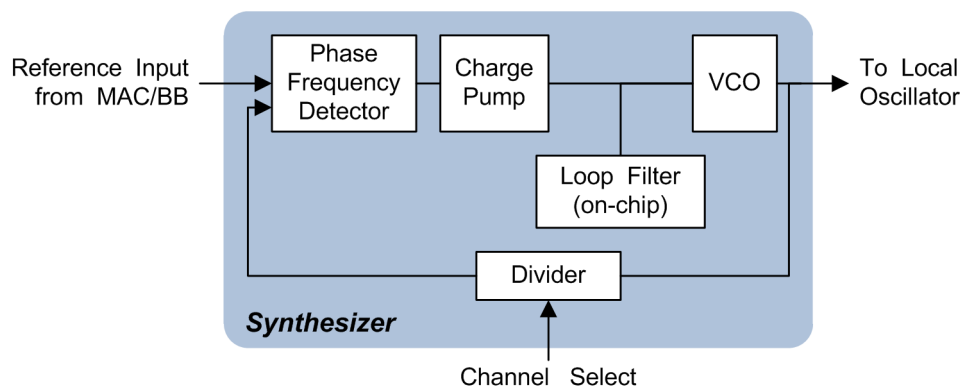

Figure 9-4 Radio Synthesizer Block Diagram
The radio supports an on-chip synthesizer to generate local oscillator (LO) frequencies for the receiver and transmitter mixers. The synthesizer has the topology shown in Figure 9-4. The QCA9558 generates the reference input from a 40 MHz crystal for the synthesizer. An on-chip voltage controlled oscillator (VCO) provides the desired LO signal based on a phase locked loop.